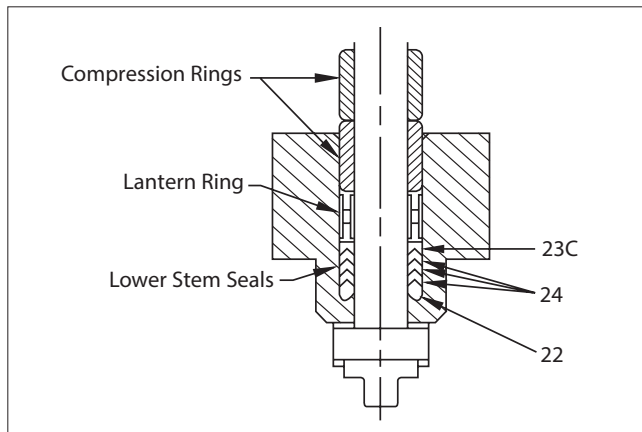

Figure 6.
1. Remove the hex head cap screws (18) and lift stem retainer subassembly off the valve body (1).
2. Remove the lock nuts (15), flat washers (57), disc springs (35) and disc spring spacers (34). Remove compression plate (10) and compression ring (9). The studs (14) do not have to be removed.
3. Slide the stem (4) out of the stem retainer (30) from the bottom using a twisting motion. Gently tapping on the top of the stem with a soft mallet will help in removal. Remove the upper stem bearing (8).
4. Pry out the upper stem seals (23A, 24 & 23B) taking care not to scratch the stem bore inside the stem retainer (30).
5. Remove the lantern ring (26) and pry out the lower stem seals (23C, 24 & 22) taking care not to scratch the stem bore inside the stem retainer (30) or the bottom sealing lip where the lower stem seal (22) is seated.
6. Place the upper stem bearing (8) onto the stem (4) and slide into the stem retainer (30).
7. Place the stem retainer in a suitable fixture or vise so that the stem (4) and upper stem bearing (8) are flush with bottom of the stem retainer (see **Figure 6**).
8. Lightly apply a lubricant compatible with the flow medium to the ID and OD of packing seals. Place lower stem seals (22, 24 & 23C) over stem and press down into stem retainer until they are seated in the bottom of the stem bore. (**See Figure 6 for proper orientation of lower stem seals.**)
9. Place lantern ring (26) in the stem bore.
10. Place two compression rings (9) (see **Figure 6**) in the stem bore. Place compression plate (10) over stem resting on top of compression rings.
* See Figures 6, 7 and 8 for seal orientation